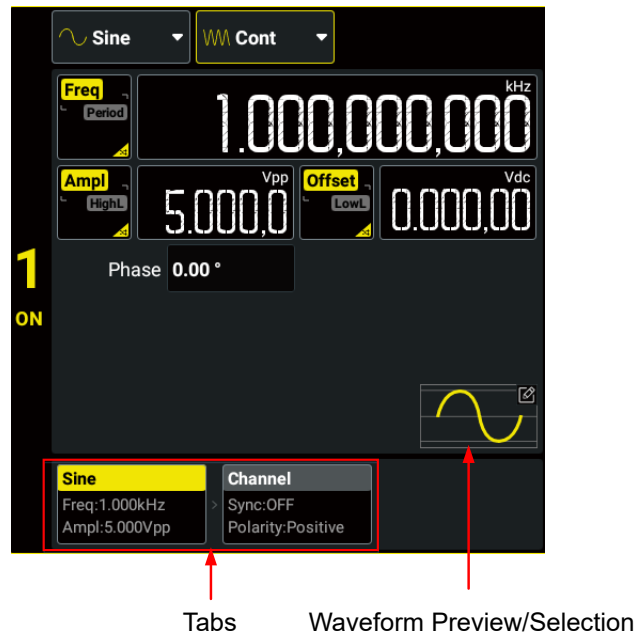

Figure 5.1 Continuous Setting Interface
- In the Continuous Setting Interface (*Figure 5.1*), click or tap the "Wave Type" drop-down button to select "Sine".
- In the Continuous Setting Interface (*Figure 5.1*), click or tap the "Waveform Preview/Selection" area and then select **Sine** in the displayed built-in waveform selection menu.
- In the Continuous Setting Interface (*Figure 5.1*), click or tap the "Wave Type" drop-down button to select "Square".
- In the Continuous Setting Interface (*Figure 5.1*), click or tap the "Waveform Preview/Selection" area and then select **Square** in the displayed built-in waveform selection menu.
You can also click or tap the "Channel" tab in *Figure 5.1* interface to access the channel setup interface to configure channel output. For details, please refer to *Channel Setup*.
- In the Continuous Setting Interface (*Figure 5.1*), click or tap the "Wave Type" drop-down button to select "Ramp".
- In the Continuous Setting Interface (*Figure 5.1*), click or tap the "Waveform Preview/Selection" area and then select **Ramp** in the displayed built-in waveform selection menu.